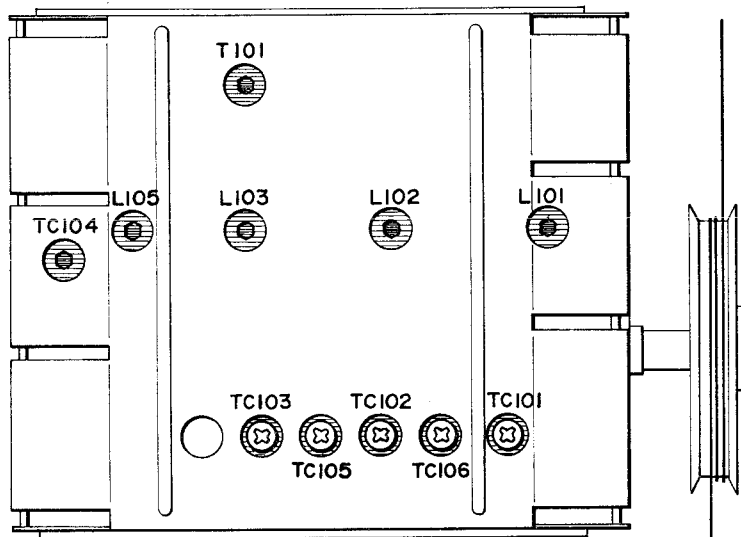

Fig. 10 FRONT END MODEL AA-8080, AA-8080L
- 4) Adjust the upper core of Front End (Figs. 10, 11) IF coil T101 to obtain maximum S curve amplitude, and adjust the lower core of coil T101 to obtain maximum noise level.
- 3) Set the receiver dial to 90 MHz and adjust the core of front end coil (coil marked "*1" in Chart 2 below) shown in Figs. 10 and 11 until the distortion meter level is maximum, and the distortion factor is minimum.
- 5) Set the receiver dial to 106 MHz, and adjust Front End trimmer condenser (*2 in Chart 2 below) shown in Figs. 10 and 11 until the distortion meter level is maximum and the distortion factor is minimum.
- 3) Set receiver dial to 90 MHz, and adjust front end coils (Coil marked "*3" in Chart 3 below) shown in Figs. 10 and 11 until the distortion meter level is maximum, and the distortion factor is minimum.